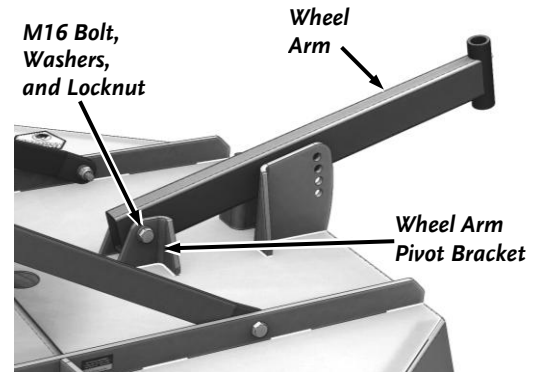

Figure 7
5. Secure the Wheel Arm to the Wheel Arm Pivot Bracket using a M16 X 100mm Bolt, two M16 Washers, and a M16 Lock Nut (Figure 7). Tighten the hardware using two 24mm Wrenches. Do not over-tighten; the Wheel Arm should be able to rotate freely about the Bolt.